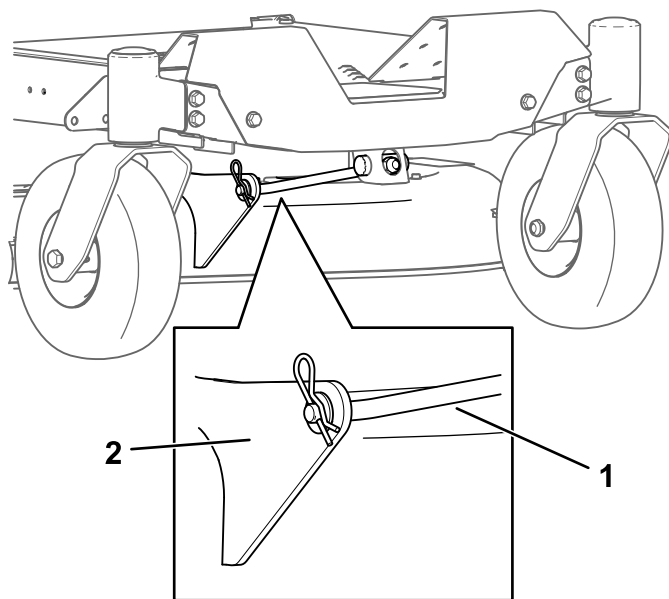

Figure 66
4. Remove the hairpin cotter from the front support rod, and remove the rod from the deck bracket (Figure 66).
8. Attach the front support rod to the mower deck with the clevis pin and hairpin cotter (Figure 66).